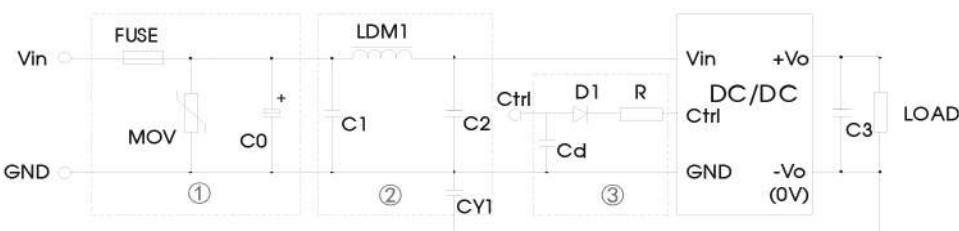

Fig. 3
- ① For EMC tests we use Part ① in Fig. 3 for immunity and part ② for emissions test. Selecting based on needs.
- ② VC is the voltage of the Ctrl end relative to the GND of the input grounding; VD is the positive-going conduction pressure drop of D1; IC is the current flows into the Ctrl end and its value is generally 5-10mA, see Fig. 3-③ for the peripheral circuit of Ctrl end;
- ③ If there is no recommended parameters, no external component is required.